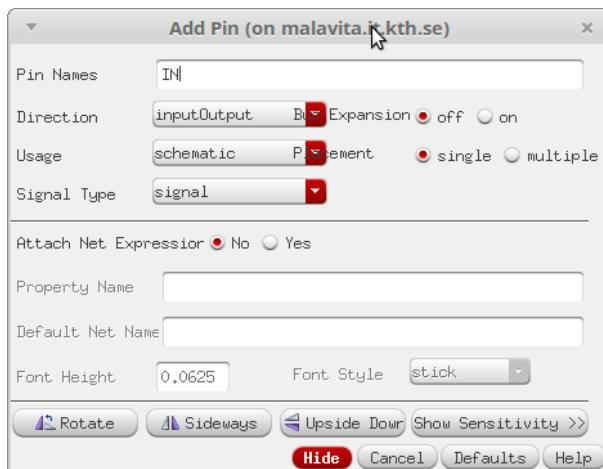

Figure 13: Insert Pins
8. Following the drawing of the wires, you must create pins in your schematic. Pins play a pivotal role in the design as they are used by the tools to define its connectivity (inputs, outputs, supply). To insert a pin press 'p'. The "Add Pin" windows pops up as depicted in Fig. 13.